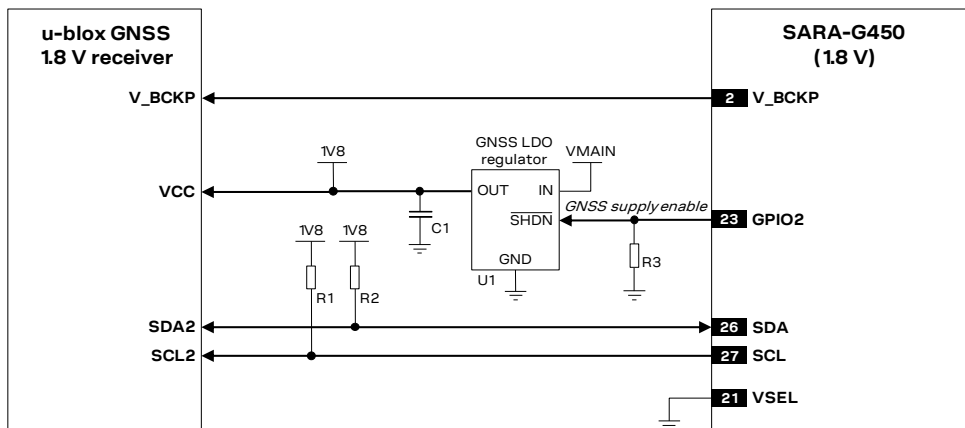
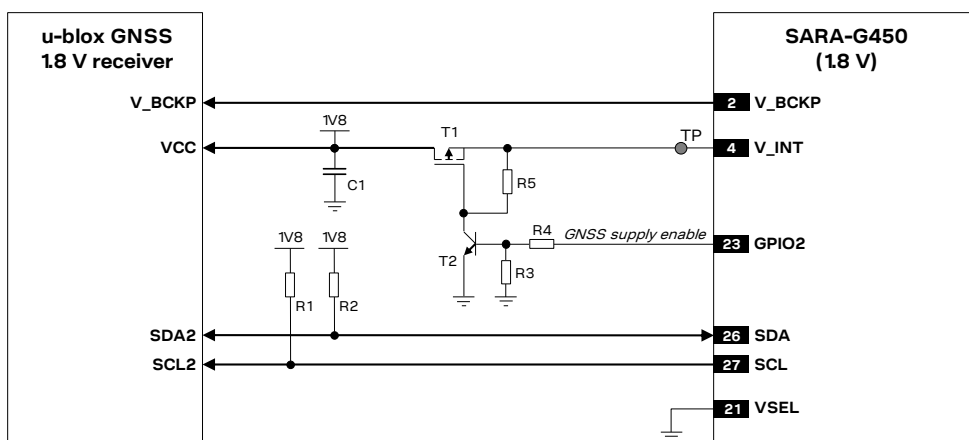
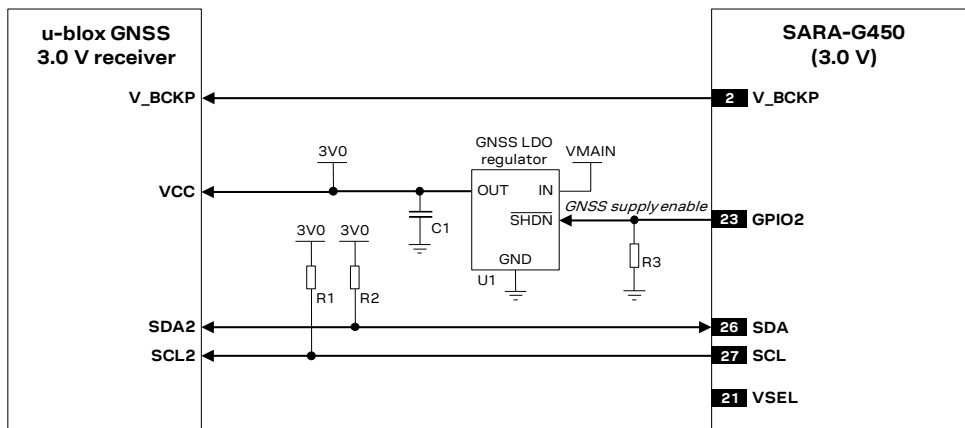
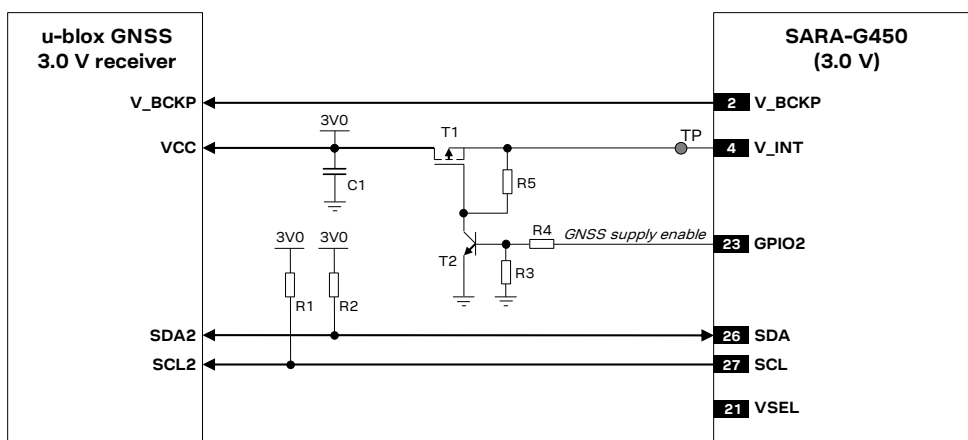

Figure 63: Application circuit for connecting SARA-G450 (1.8 V) modules to u-blox 1.8 V GNSS receivers
Figure 64: Application circuit for connecting SARA-G450 (1.8 V) modules to u-blox 1.8 V GNSS receivers using **V_INT** as supply
Figure 66: Application circuit for connecting SARA-G450 (3.0 V) modules to u-blox 3.0 V GNSS receivers
Figure 67: Application circuit for connecting SARA-G450 (3.0 V) modules to u-blox 3.0 V GNSS receivers using **V_INT** as supply
-  Connect the external DDC (I2C) pull-ups to the **V_INT** supply source, or another supply source enabled after **V_INT** (e.g., as the GNSS supply present in Figure 63 and Figure 66 application circuits), as any external signal connected to the DDC (I2C) interface must not be set high before the switch-on of the **V_INT** supply of the DDC (I2C) pins, to avoid latch-up of circuits and to permit a clean boot of the module.
Figure 63 shows an application circuit example for connecting a SARA-G450 cellular module to a u-blox 1.8 V GNSS receiver:
Figure 64 illustrates an alternative solution as supply for u-blox 1.8 V GNSS receivers: the **V_INT** 1.8 V regulated supply output of SARA-G450 cellular modules can be used to supply a u-blox 1.8 V GNSS receiver instead of using an external voltage regulator as shown in the previous Figure 63. The **V_INT** supply is able to support the maximum current consumption of these positioning receivers.
The supply of the u-blox 1.8 V GNSS receiver can be switched off using an external p-channel MOSFET controlled by the **GPIO2** pin by means of an appropriate inverting transistor as shown in Figure 64, implementing the “GNSS supply enable” function. If this feature is not required, the **V_INT** supply output can be directly connected to the u-blox 1.8 V GNSS receiver, so that it will be switched on when **V_INT** output is enabled.
- The **V_BCKP** supply output of the cellular module can be directly connected to the **V_BCKP** supply input pin of the GNSS receiver as in the application circuit of Figure 63.
Figure 66 shows an application circuit example for connecting a SARA-G450 cellular module to a u-blox 3.0 V GNSS receiver:
Figure 67 illustrates an alternative solution as supply for u-blox 3.0 V GNSS receivers: the **V_INT** 3.0 V regulated supply output of SARA-G450 cellular modules can be used to supply a u-blox 3.0 V GNSS receiver instead of using an external voltage regulator as shown in the previous Figure 66. The **V_INT** supply is able to support the maximum current consumption of these positioning receivers.
The supply of the u-blox 3.0 V GNSS receiver can be switched off using an external p-channel MOSFET controlled by the **GPIO2** pin by means of an appropriate inverting transistor as shown in Figure 67, implementing the “GNSS supply enable” function. If this feature is not required, the **V_INT** supply output can be directly connected to the u-blox 3.0 V GNSS receiver, so that it will be switched on when **V_INT** output is enabled.
- The **V_BCKP** supply output of the cellular module can be directly connected to the **V_BCKP** supply input pin of the GNSS receiver as in the application circuit of **Figure 66**.